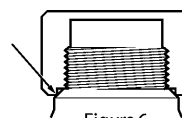

Figure 6
1. The valve cover is sealed where indicated by the arrow. (Refer to Figure 6)